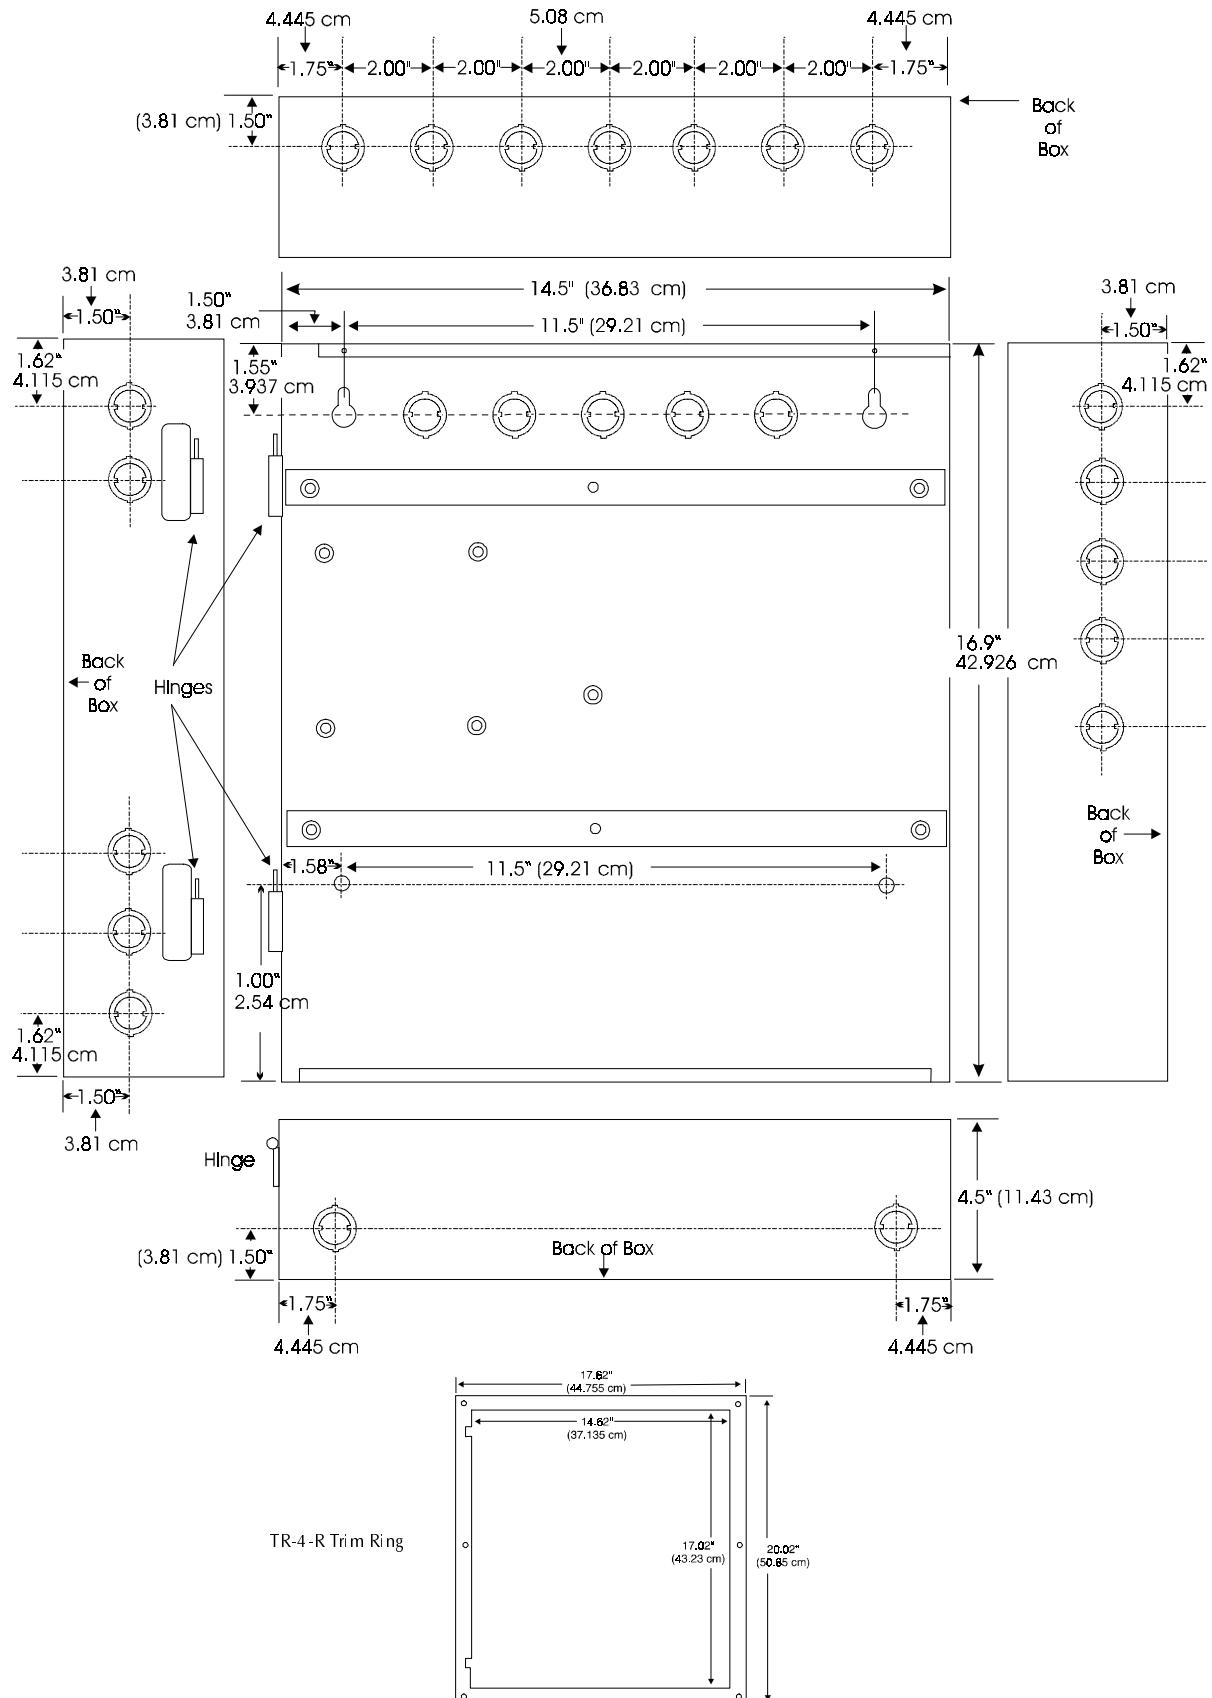

Figure 6 AFP-100 Cabinet Mounting
- 1 Mark and predrill holes for the top two keyhole mounting bolts using the dimensions shown in Figure 6 on page 26.
Figure 6 shows the cabinet dimensions for the control panel.